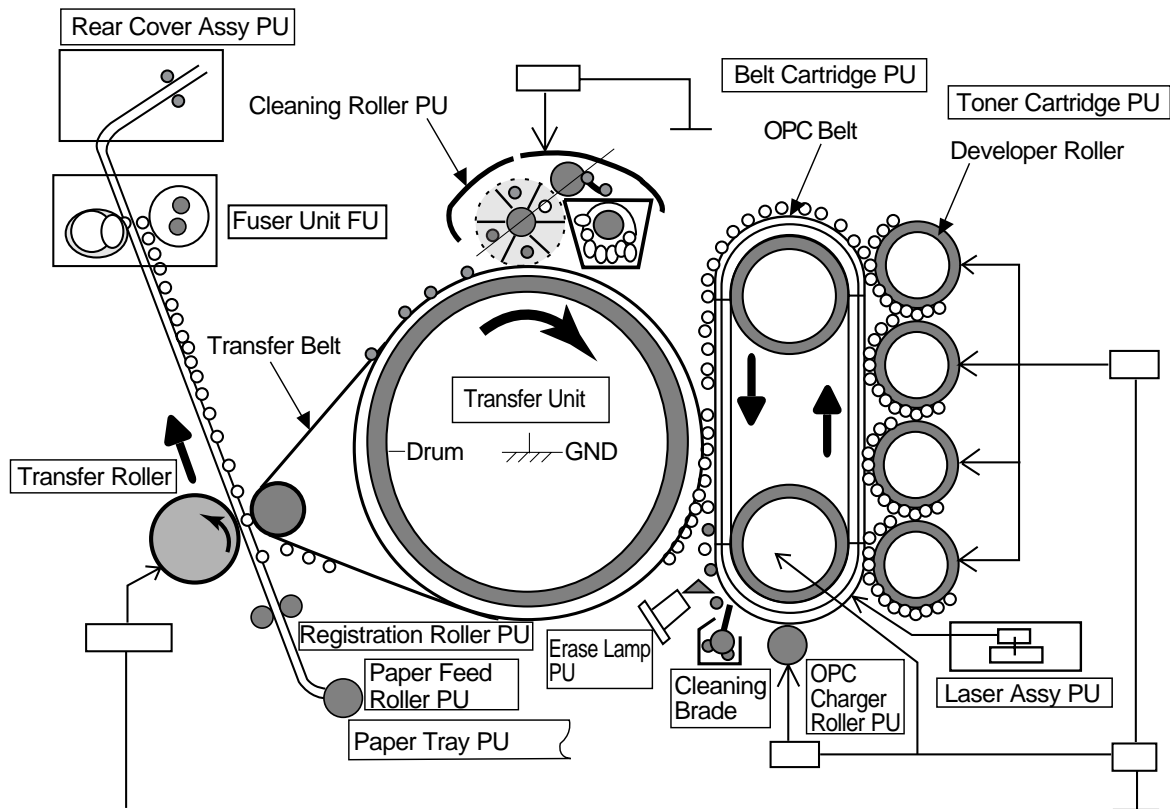

Fig.4-9
- (1) Process of Print System (See Fig.4-9.)
- i) The OPC belt is biased to the voltage -CBV(V) by the power supply CBV.
- iii) The developer magnetic roller of the toner cartridges is biased to -DBV(V) by the power supply DBV.